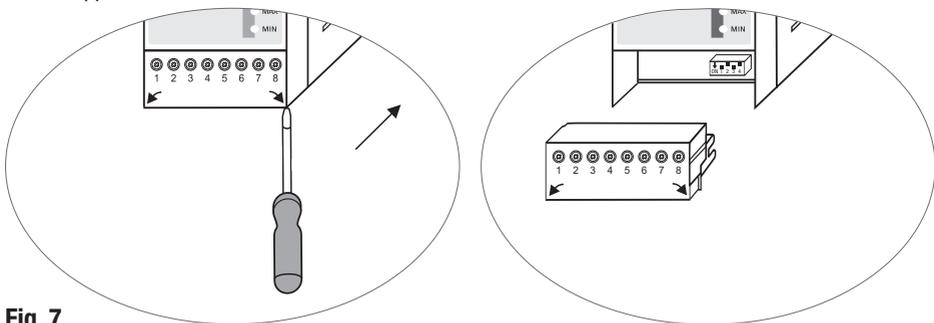

Fig. 7
- Remove the upper and lower terminal strips. **Fig. 7**